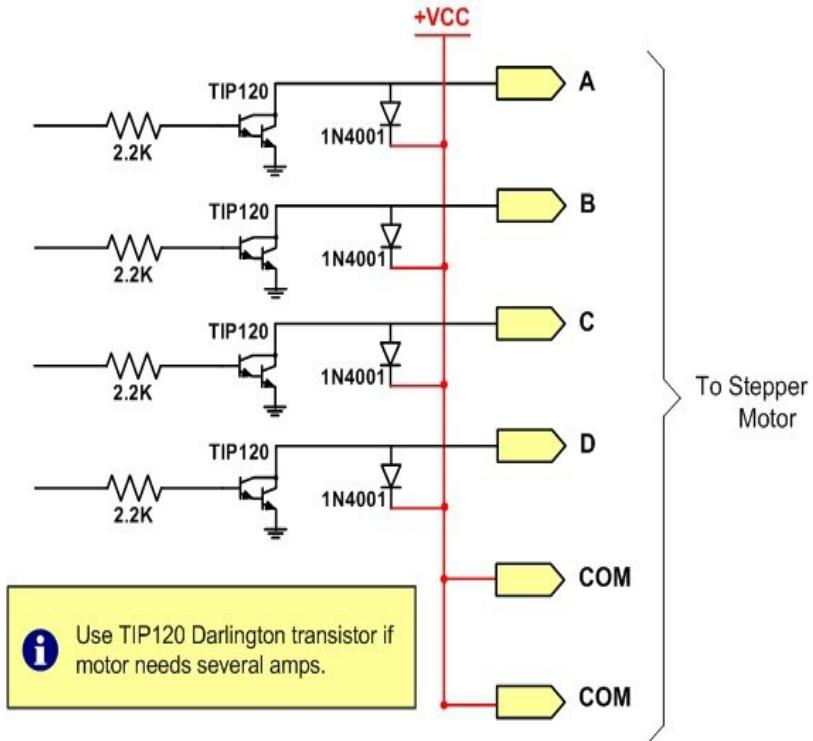

Figure 10-11: Using
3. The four leads of the stator winding are controlled by four bits of the Arm port (PB0–PB3). Because the microcontroller lacks sufficient current to drive the stepper motor windings, we must use a driver such as the ULN2003 (or ULN2803) to energize the stator. Instead of the ULN2003, we could have used transistors as drivers, as shown in Figure 10-11. However, notice that if transistors are used as drivers, we must also use diodes to take care of inductive current generated when the coil is turned off. One reason that using the ULN2003 is preferable to the use of transistors as drivers is that the ULN2003 has an internal diode to take care of back EMF.
Unipolar stepper motors can be controlled using the basic interfacing shown in Figure 10-11, whereas the bipolar stepper requires H-Bridge circuitry. Bipolar stepper motors require a higher operational current than the unipolar; the advantage of this is a higher holding torque.
Figure 10-11 shows an interface to a unipolar stepper motor using transistors. Diodes are used to reduce the back EMF spike created when the coils are energized and de-energized, similar to the electromechanical relays discussed earlier. TIP transistors can be used to supply higher current to the motor. Table 10-8 lists the common industrial Darlington transistors. These transistors can accommodate higher voltages and currents .